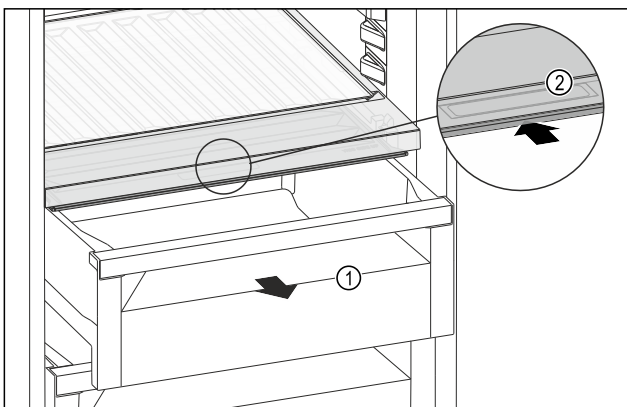

Fig. 218
- ▶ Pull out the drawer Fig. 218 (1).
- ▶ Grasp the recessed grip Fig. 218 (2) on the compartment lid and push the compartment lid backwards at the same time.